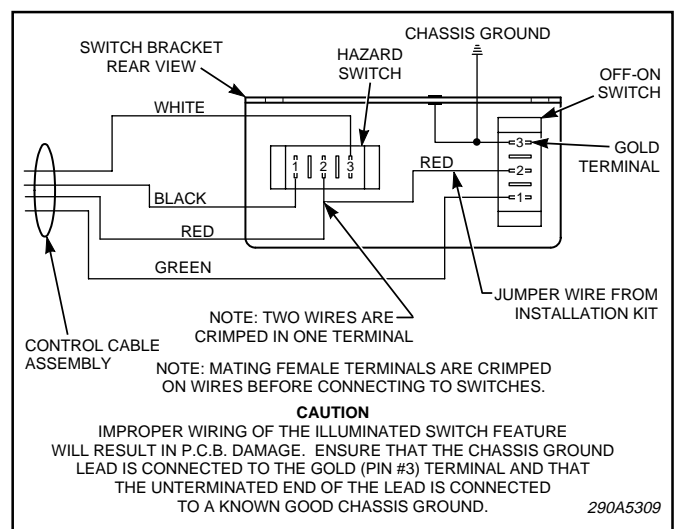

Figure 4.
- b. See figure 4. Crimp five 1/4" straight terminals on the cable wire ends and jumper wire combination.
c. Connect the terminals on the switch as shown in figure 4.
a. See figure 4. Connect the right angle terminal on the switch bracket ground lead to the gold (pin #3) terminal of the on-off switch.